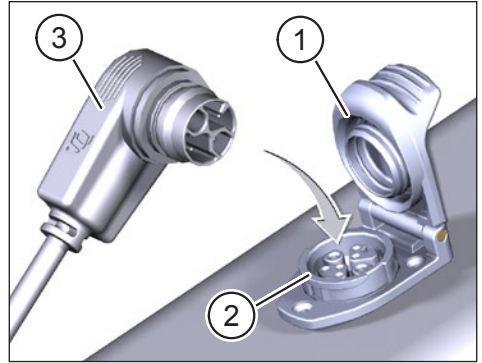

Fig. 2: Integrated Battery charging
- ▶ Open the cover (item 1 in Fig. 2) on the charging port (item 2 in Fig. 2) in the bike frame.
- ▶ Align the charging plug (item 3 in Fig. 2) of the Charger so that the plug codes of the charging plug and charging port match (see Fig. 2).